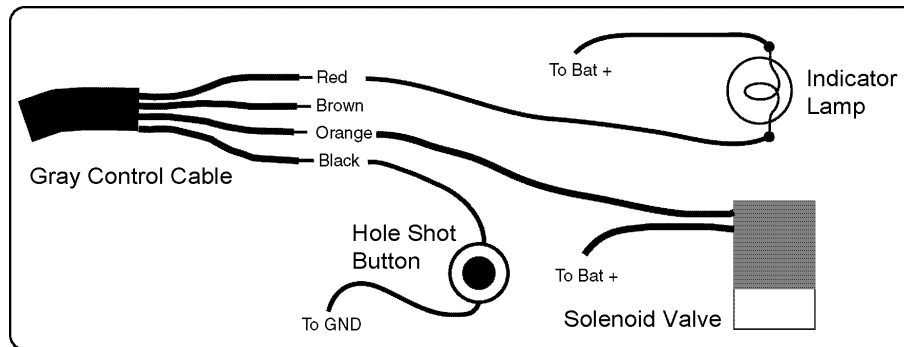

Figure 2
1. Figure 2 shows how to hook up electrical control devices and indicator lamps to T4 relay channels 1 and 2.
2. Figure 2 shows connection of a handle bar mounted Hole Shot switch.